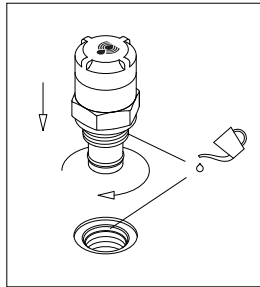

fig. 7
- (Fig. 7) Lubricate with the operating fluid the thread and the O-Ring of the indicator body, then screw the indicator body in referring to the tightening torque table in paragraph 3